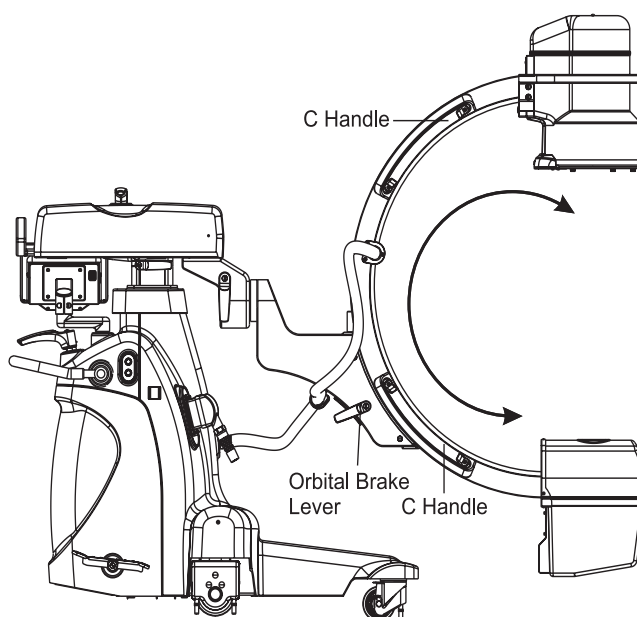

Figure 18: Orbital Movement
5. Normal position is mentioned as generator in the bottom, and position is read as 0° on the orbital scale. (Shown in "Figure 18")